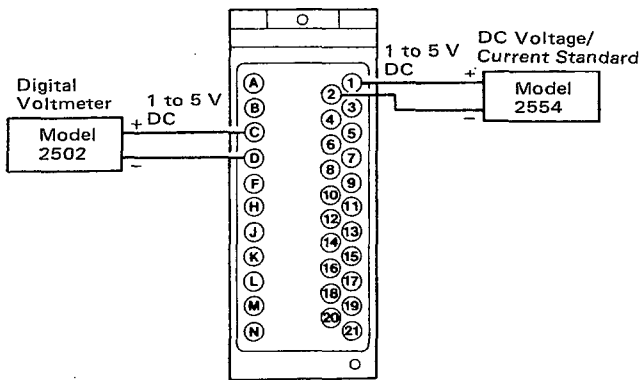

Figure 4-2-1. Wiring Diagram for SLPC, SLMC, or SCMS Test Run.
1. Connect the SPRG Programmer and test instruments as shown in Figures 4-2-1 through 4-2-4 to check that operation of the Programmer in test run mode is normal. Leave the power supplies disconnected.